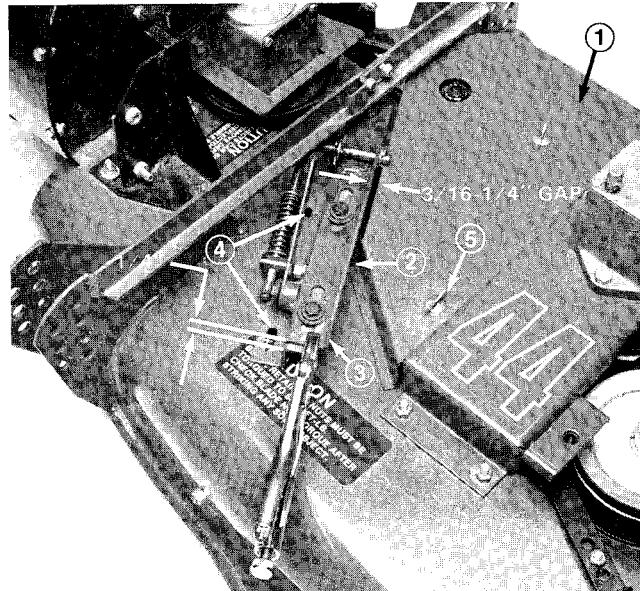

Figure 12
20. Install new deck belt cover (Fig. 12).
**Note:** For older cutting units with knob type cover fasteners, the 1/4 turn fastener holes on the new deck cover must be punched out (Fig. 12).
1. Adjust idler slide so there is 1/4" from end of slide to end of mounting bracket. Clamp slide to retain this position while mounting to deck (Fig. 12).
2. Position idler assembly on deck so edge is parallel with belt cover and there is a 3/16-1/4" gap (Fig. 12).
3. With idler assembly clamped, slide idler pulley firmly into blower belt (Fig. 12).